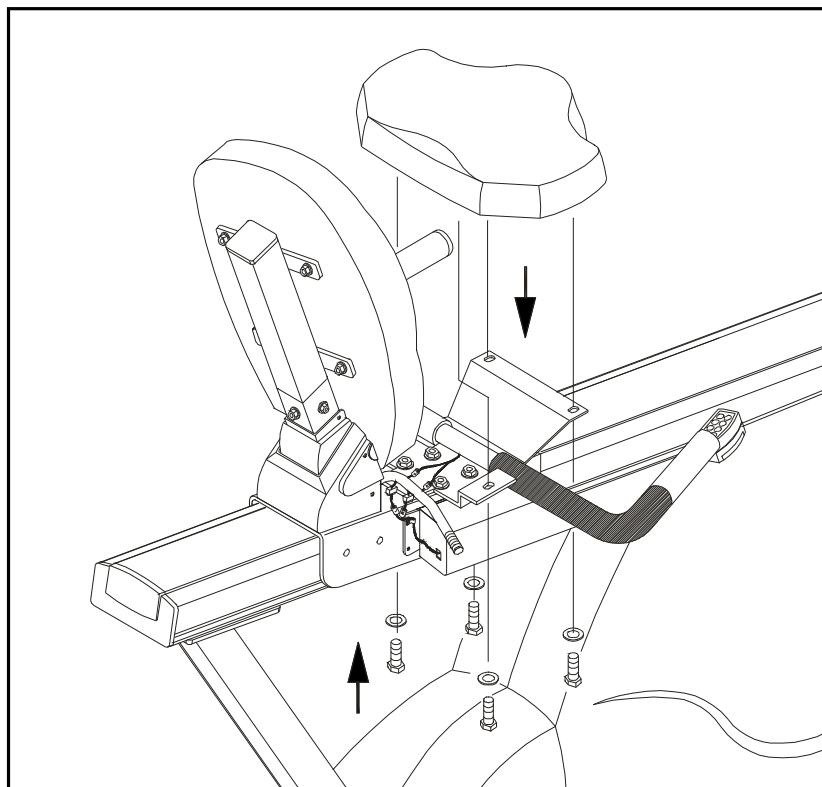

Fig.8
10. Attach the seat base to the handlebar mounting plate, using the bolts and washers provided. Insert the bolts from underneath the seat, two in back and two in front, through the handlebar mounting plate. Tighten the bolts securely (see Fig.8).